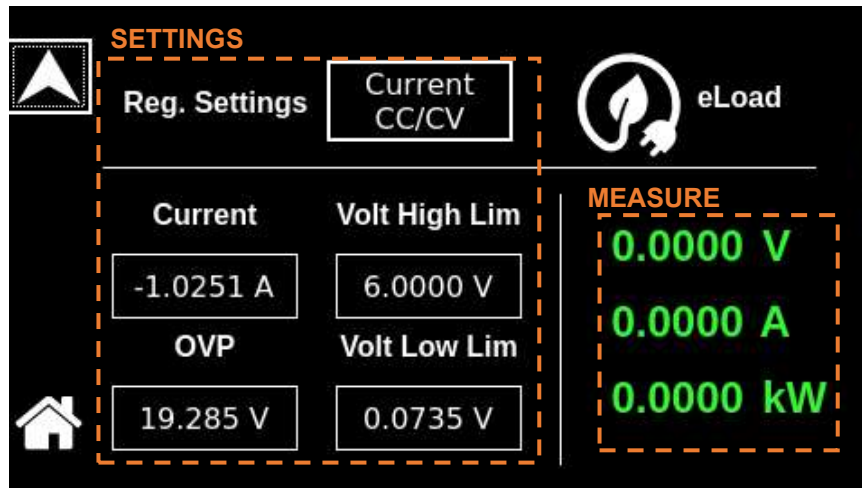

Figure 10-11. Dashboard Screen in Current CC/CV Regulation setting
- a) Current - CC/CV** Regulation setting is shown in Figure 10-11,